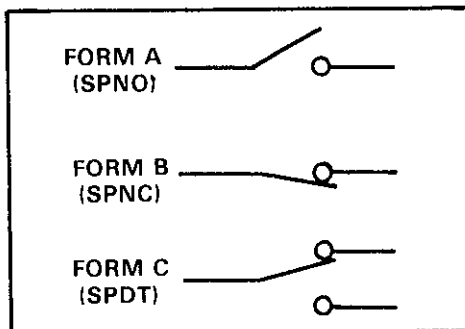

Figure 6. Switch Terminology
1. Form A is simply a single pole normally open (SPNO) switch (refer to Figure 6). A 2-pole switch normally open is classified as 2 Form A.
2. Form B is similar to Form A except that its contacts are normally closed (refer to Figure 6). A 2-pole switch normally closed is classified as a 2 Form B.
3. Form C is shown in Figure 6 as a single pole double throw switch. It could also be a multipole switch such as a 2-pole which would be classified as a 2 Form C.